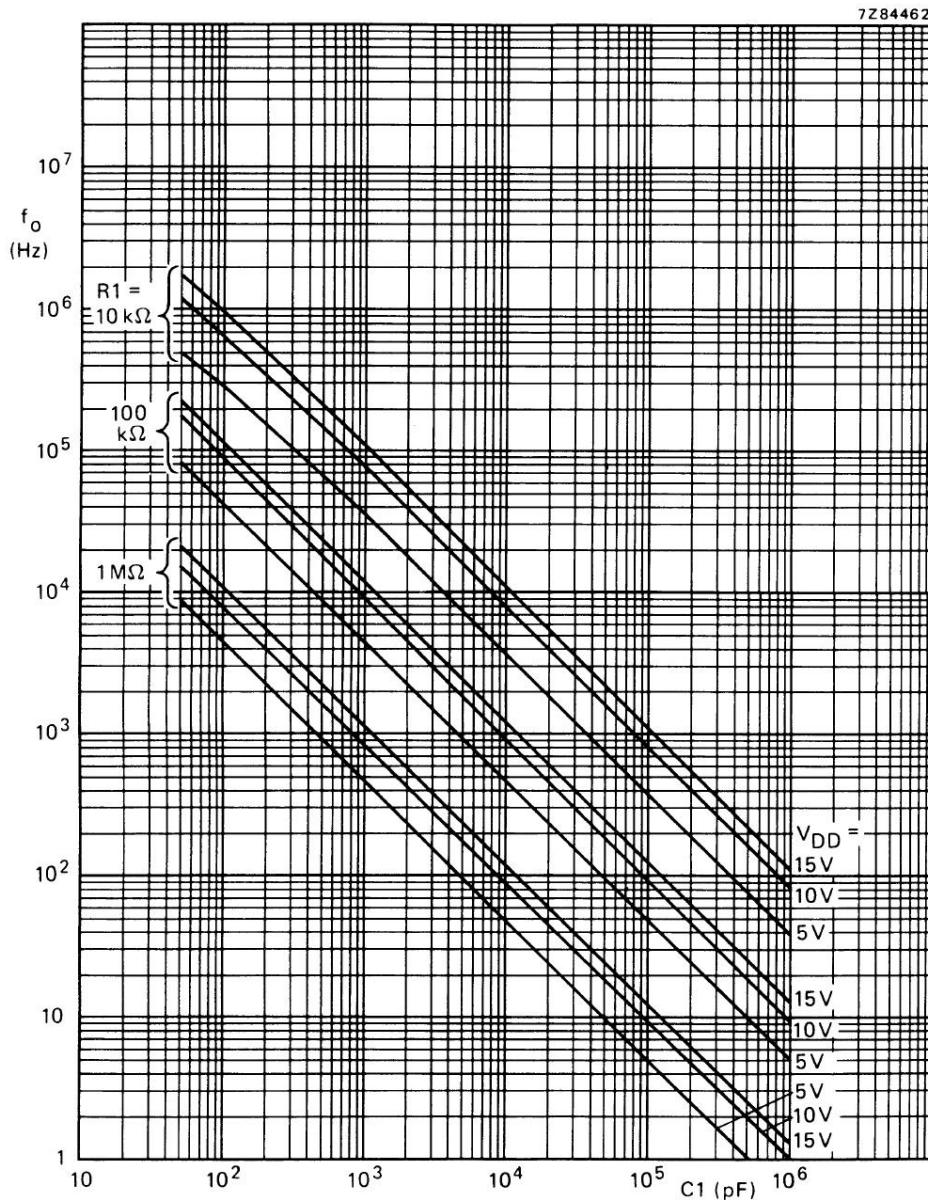

Fig.7 Typical centre frequency as a function of capacitor C1; $T_{amb} = 25^\circ\text{C}$; V_{COIN} at $\frac{1}{2} V_{DD}$; INH at V_{SS} ; $R_2 = \infty$.
- a) Given f_o : use f_o with Fig.7 to determine R1 and C1.
- b) Given f_{max} : calculate f_o from $f_o = \frac{1}{2} f_{max}$; use f_o with Fig.7 to determine R1 and C1.